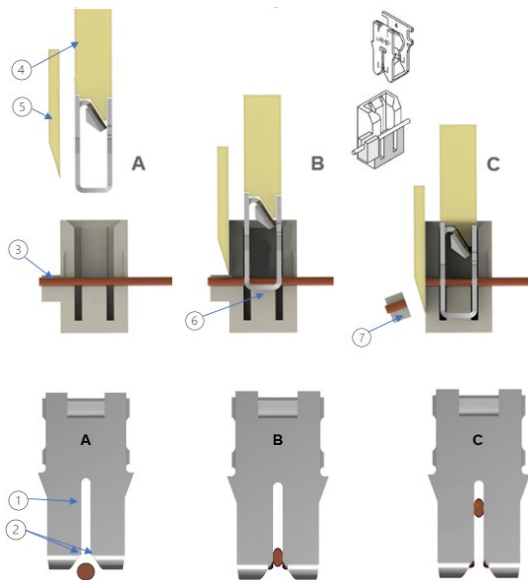

Figure 4: MAG-MATE terminal insertion
*MAG-MATE Terminal Solution:* Figure 4 details how MAG-MATE terminals achieve a solderless motor connection. These terminations have IDC (1) slots with stripping shoulders (2) at two points on each magnet wire. Once the magnet wire is positioned in the cavity slot (3), the terminal is inserted using the MAG-MATE terminal inserter which includes an insertion finger (4) and a trim blade (5). The stripping shoulders remove insulation during insertion and compress the bare wire in the slot, with the support anvil (6) holding it in place. This step also trims the wire & wire support block (7), providing a robust and reliable connection.